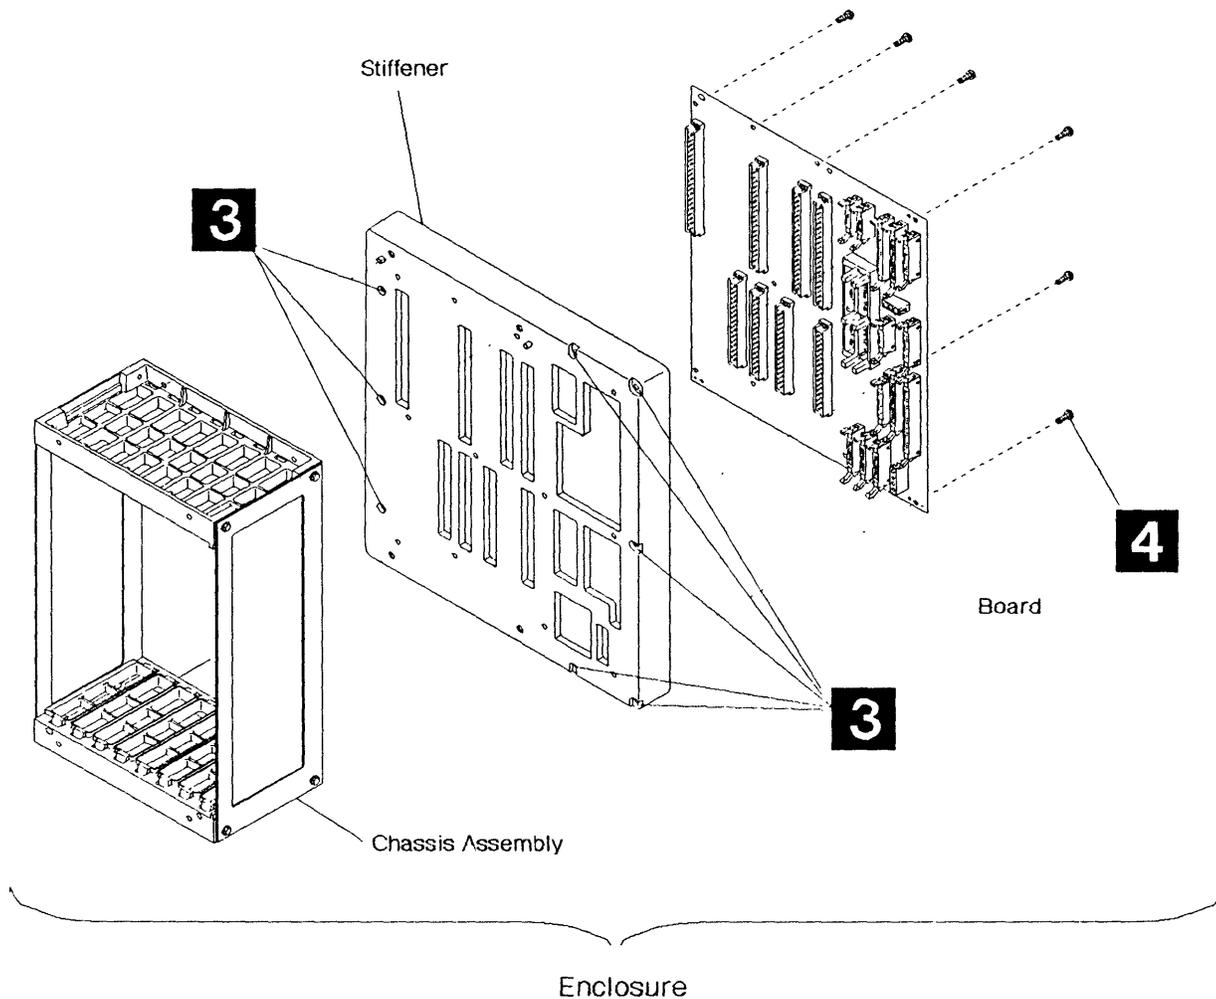

Figure 4-120. MOSS Board Enclosure
10. Remove the 8 screws **3** which maintain the MOSS board enclosure in the frame. Refer to Figure 4-120. Then remove the enclosure and place it in a safe working place.
11. Remove the 12 screws **4** which hold the MOSS board on the stiffener. Refer to Figure 4-120. Then remove the MOSS board.
1. Place the new board on the stiffener and fasten it with the 12 screws **4**. Refer to Figure 4-120 on page 4-88.
2. Replace the MOSS board enclosure in the machine frame and fasten it with the 8 screws **3**. Refer to Figure 4-120 on page 4-88.